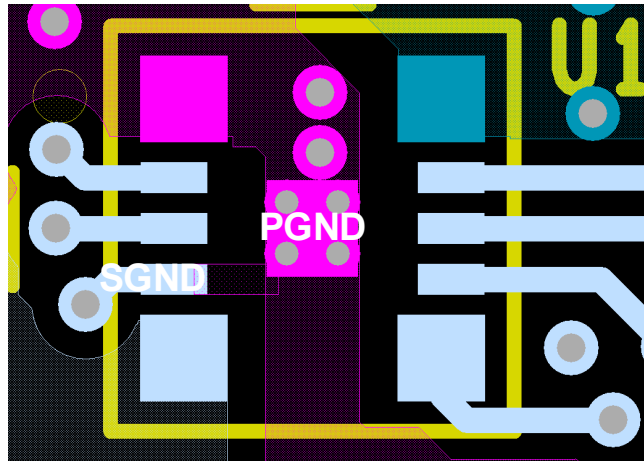

Figure 38. Layout Example - SGND is Connected to PGND at Single Point
- Use a separate SGND plane for components that are connected to SGND. Connect SGND and PGND at a single point on the top layer as shown in Figure 38.